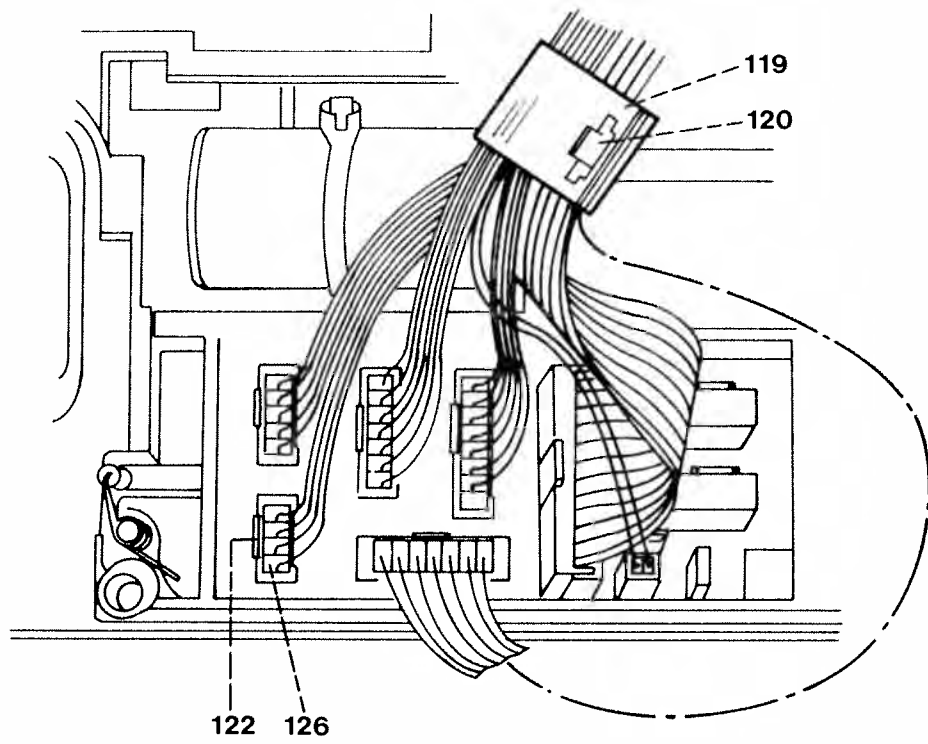

Fig. 29a
- Lift catch 122 by 1 to 2 mm (Fig. 29a).
- Insert the four-connection plug 126 in the four-pin base (Fig. 29a).
- Install all flat cables according to Fig. 29a and fit both cable clips 119.